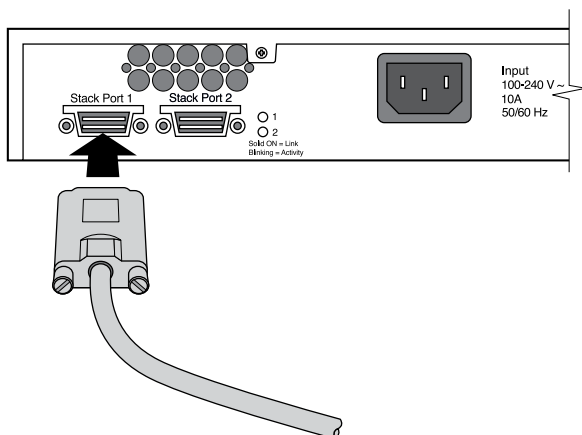

Figure 228: Connecting a SummitStack Cable
1. Align the cable connector with the stacking port connector on the rear of the first switch (see Figure 228).